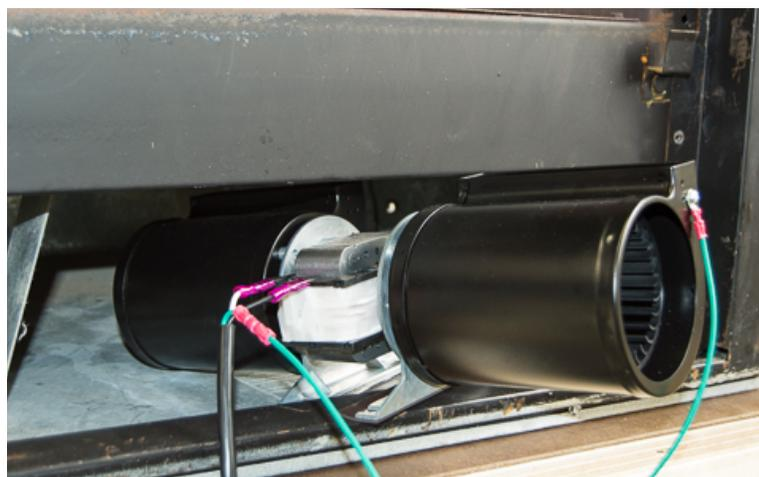

Figure: 1
Step 2: Connect black and white wires of power cord to either metal spade attached to motor; push disconnects onto the metal tabs. Use small screw to ground ring terminal to small hole on end of fan. (Figure: 1)
Position blower with rectangle air exit ports facing up and motor facing left. Slide blower into lower vent space centered against the rear wall. (Figures: 1,3 & 5)